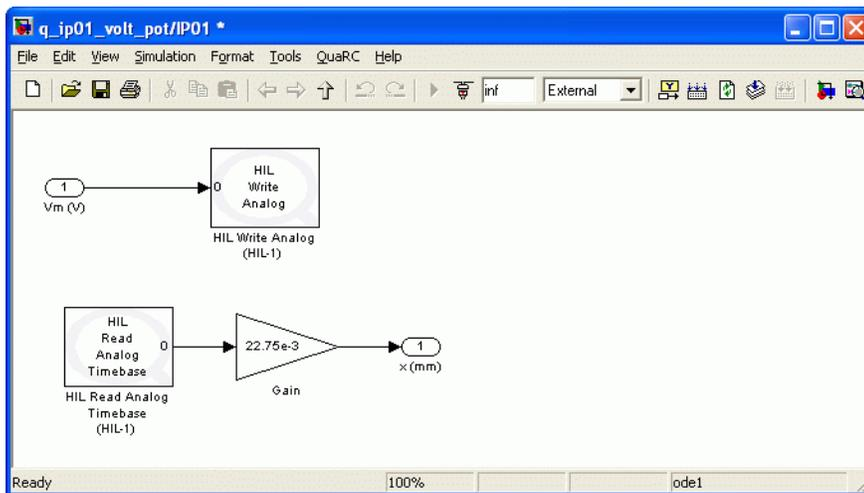

Figure 9 IP01 Subsystem
Step 1. Start a fresh Simulink diagram and create a model that contains a subsystem that has the IP01 motor voltage as input and the potentiometer reading (in mm) as output, as shown in Figure 9, below. This is done by combining the models designed previously in Sections Applying a Voltage to the DC Motor and Measuring from the IP01 Cart Potentiometer.